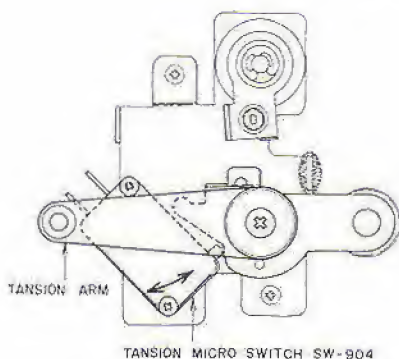

Fig. 7
10. OPERATING POSITION ADJUSTMENT OF TENSION MICROSWITCH SW-904 (Refer to Fig. 7)